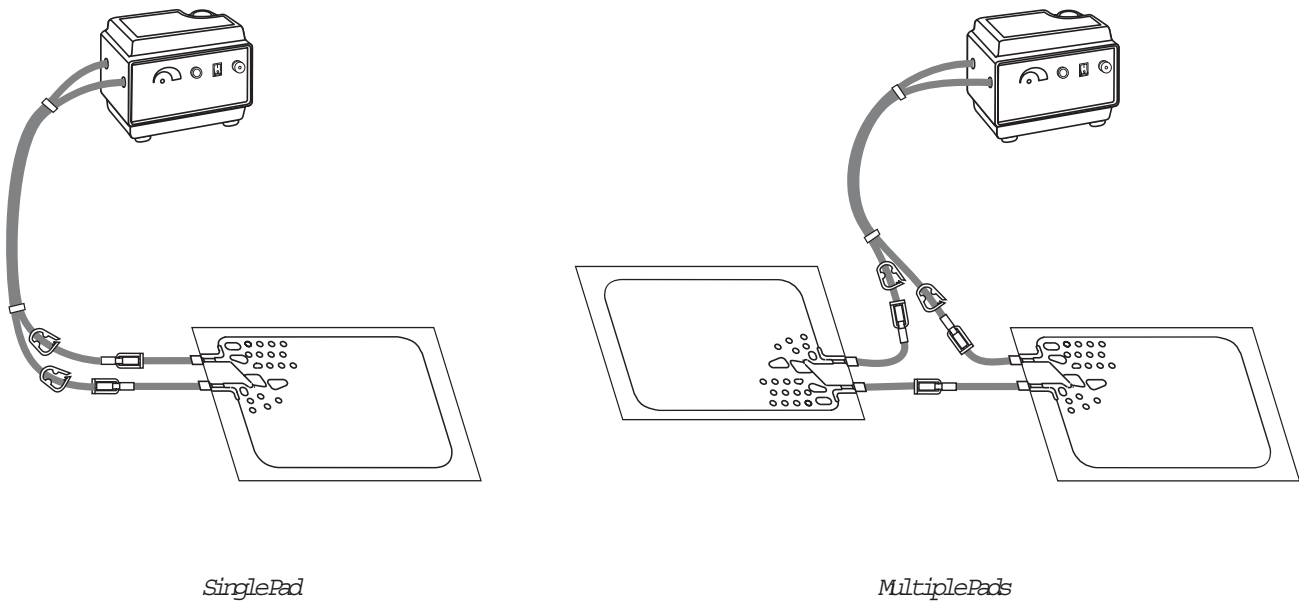

Figure 1—T/Pump Heat Therapy System
NOTE: Refer to figure 1 (p. 2) and item 9 (p. 6) when connecting multiple pads.
For best results use only GAYMAR T/Pads® or Mul•T•Pads®. The unique button design allows water to flow and provides trouble free operation when the pad is folded. This reduces the number of different sizes of pads your facility must keep in inventory. The T/Pads can be interconnected (on model TP500 only) to provide therapy to more than one body site at a time (see fig. 1, p. 2). For a brochure listing the various pads, contact the GAYMAR Customer Service Department (see inside cover for telephone numbers).